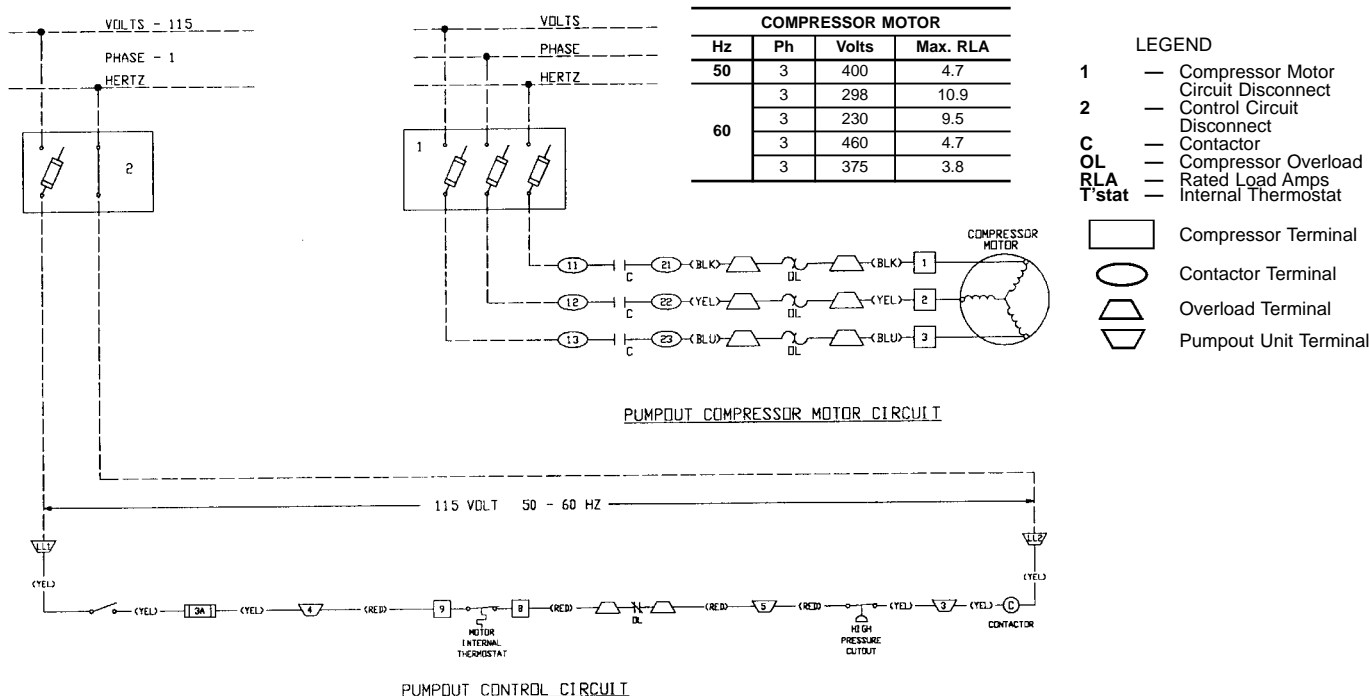
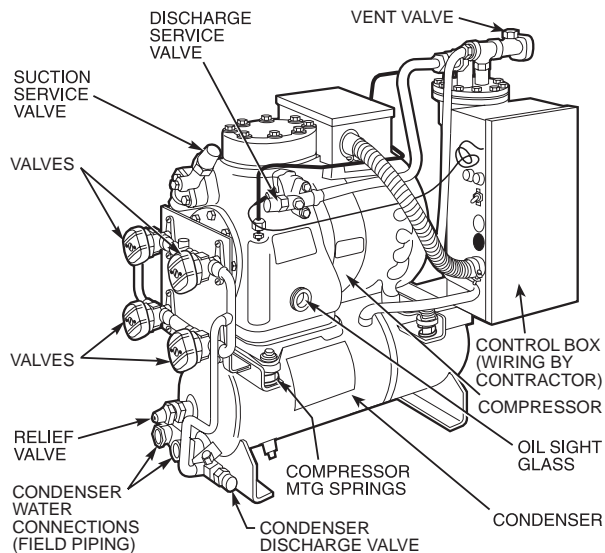

Fig. 33 — Pumpout Unit Wiring Schematic
Fig. 34 — Optional Pumpout Compressor
4. Oil should be visible in the compressor sight glass under all operating conditions and during shutdown. If oil is low, add oil as described under Pumpout System Maintenance section, page 83. The pumpout unit control wiring schematic is detailed in Fig. 33. The Optional Pumpout System is detailed in Fig. 34.